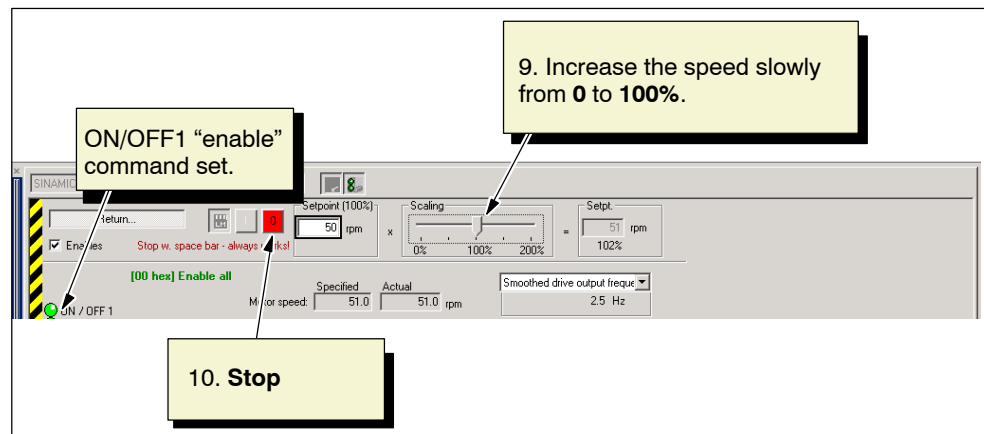

Fig. 4-12 The motor starts to rotate
8. Click **Drive on**. The ON/OFF1 “enable” command is set and displayed on the control panel (see Fig. 4-12).
9. Move the slider for the speed slowly from 0 to 100% (see Fig. 4-12).